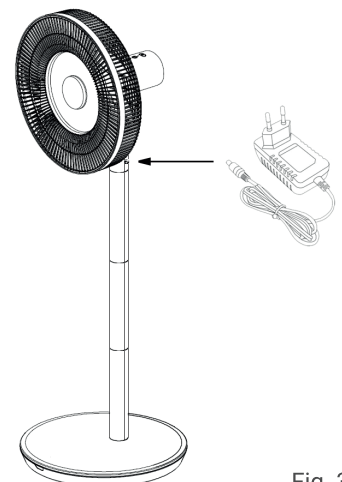

Fig. 3
2. Put the fan on the floor, on a level surface. Check the household voltage to ensure it matches the appliance's rated specification. Be sure to plug into a 220-240 V~ 50 / 60 Hz outlet. Connect the adapter to the socket to supply power. (Fig. 3 shown)